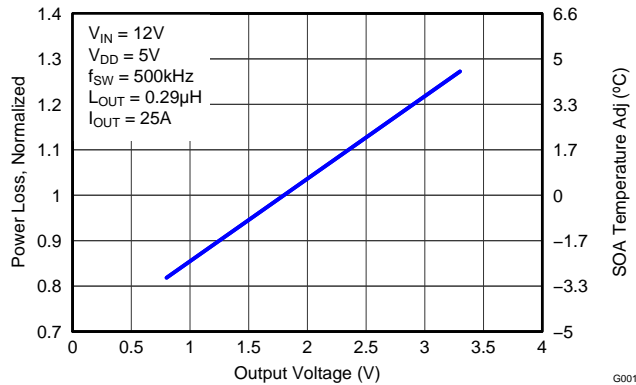

Figure 9. Normalized Power Loss vs Output Voltage
- Normalized Power Loss for output voltage \approx 1.11 (Figure 9)
- SOA adjustment for output voltage \approx 1.5 $^{\circ}$ C (Figure 9)